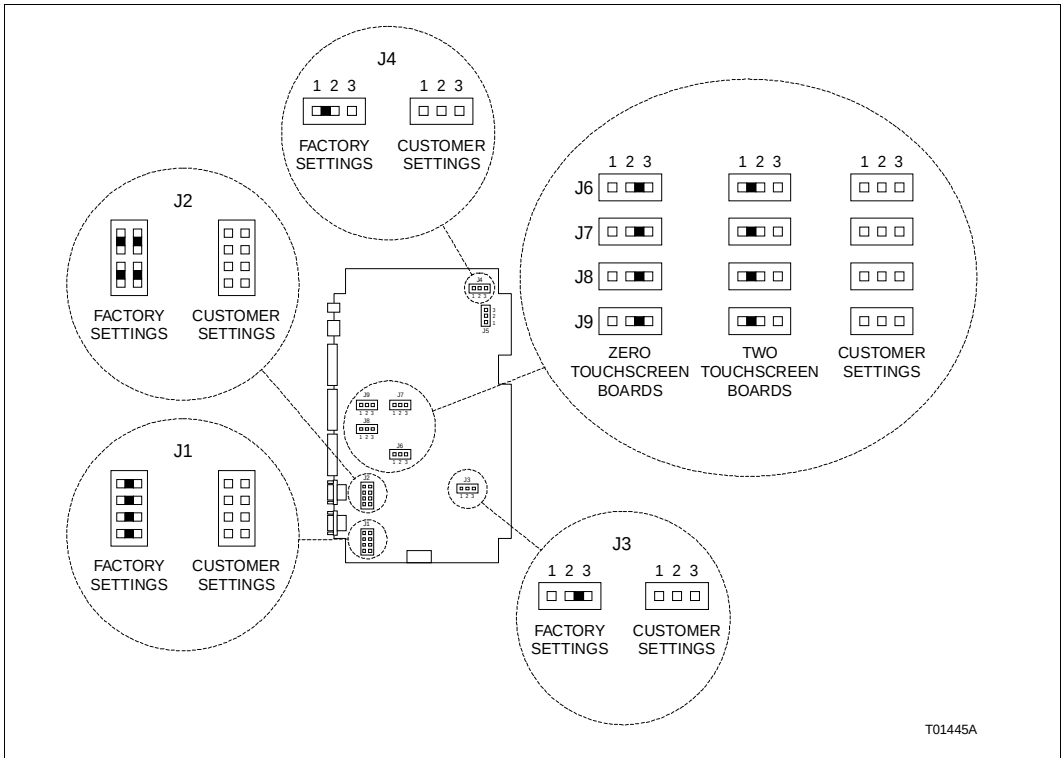

Figure PR8-1. IIMKM02A Module
- ☐ 1. Refer to Table PR8-1 and Figure PR8-1 and set the jumpers as desired, filling in the customer settings in Table PR8-1 and Figure PR8-1.
NOTE: The bold entries in Table PR8-1 and the settings shown Figure PR8-1 indicate factory settings.